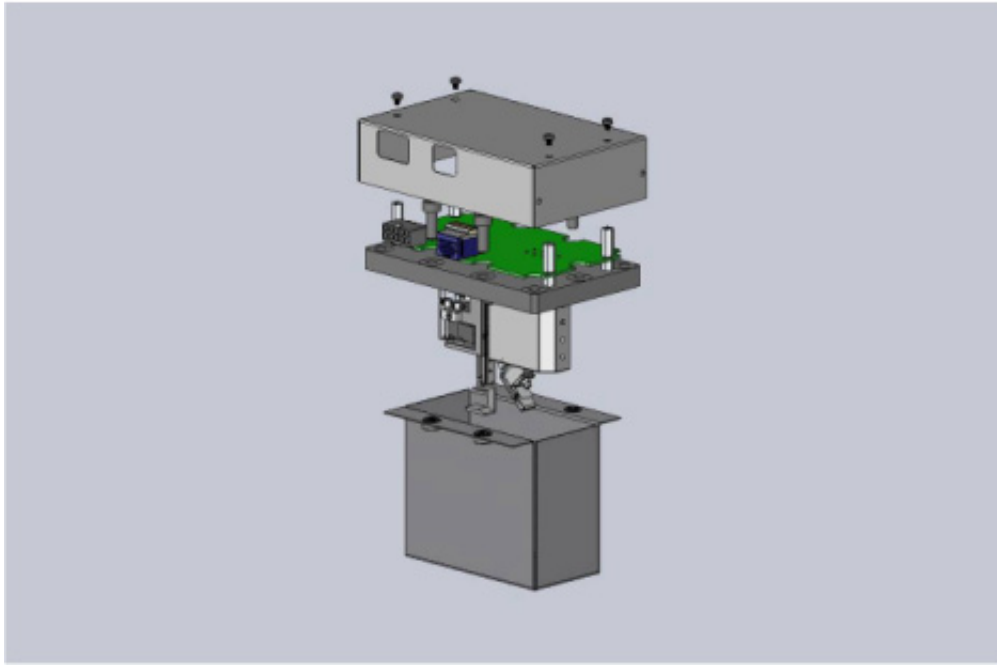

Figure 10: Header Assembly Screws
13. Remove the top cover from the header assembly by removing the four screws using an M3 Philips screw driver (Figure 10: Header Assembly Screws).